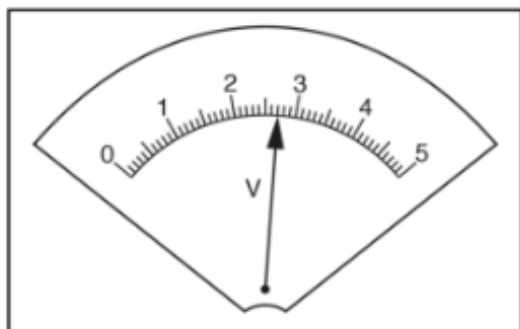

Fig. 2.2
- (b) In the first line of Table 2.1, record the potential difference V and current I for wire **A**, as shown in Figs. 2.2 and 2.3. [2]